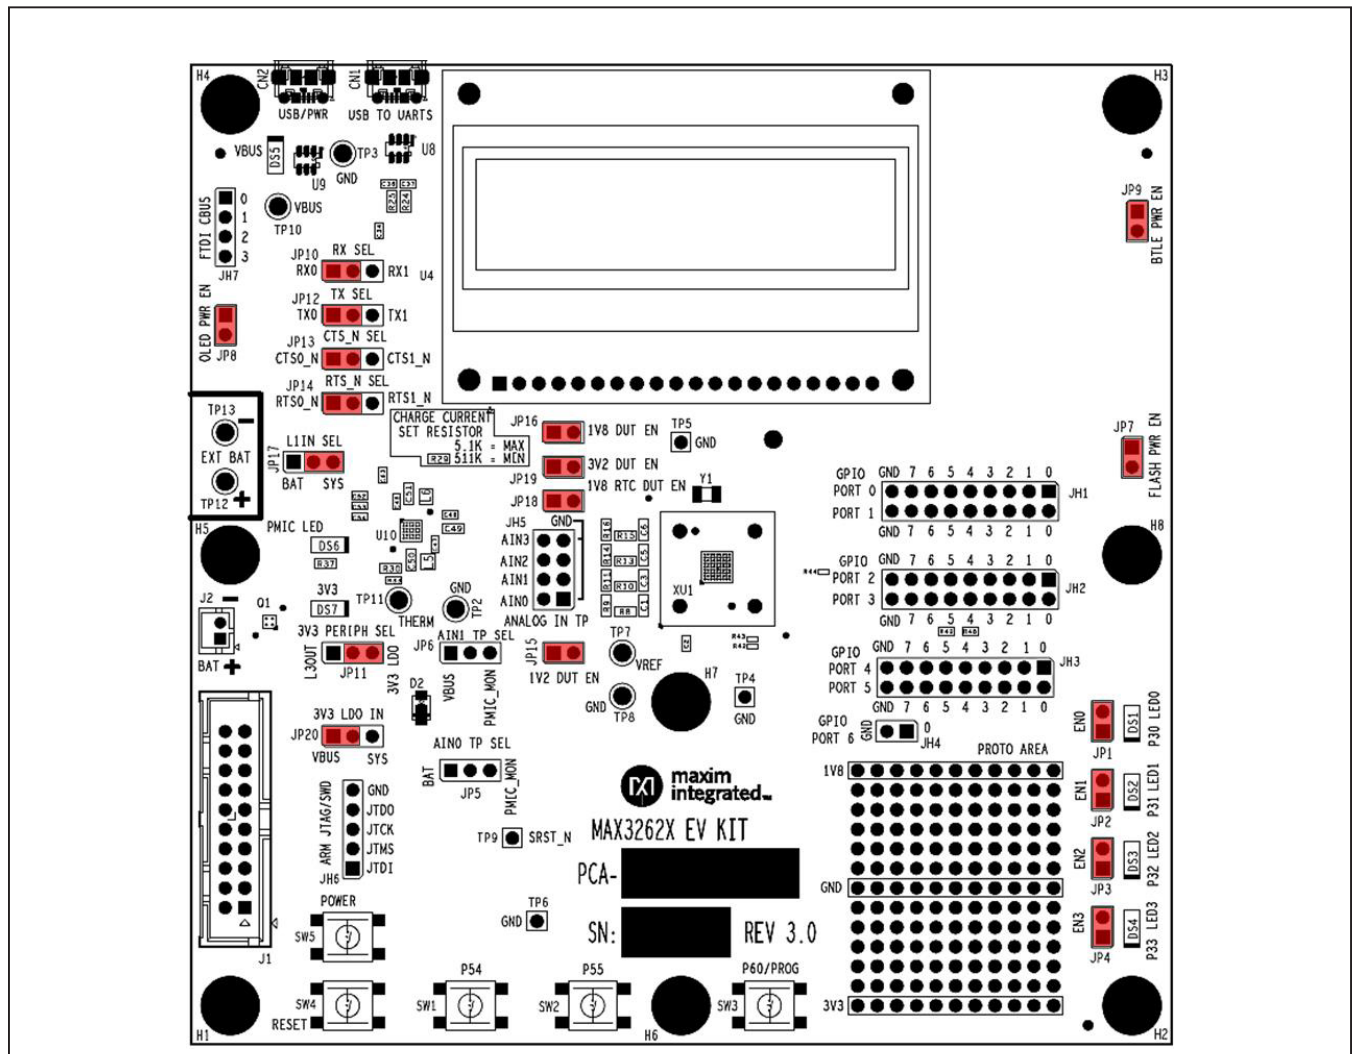

Figure 4. Default Jumper Placement
- 1) While observing safe ESD practices, carefully remove the EV kit board out of its packaging. Quickly inspect the board to make sure that no damage occurred during shipment. Jumpers/shunts were pre-installed prior to testing and packaging. By default, they select the USB interface as the source of power for the EV kit board. See Table 1 and Figure 4 for the default jumper settings and descriptions.
Table 1 details the functions of the configurable jumper headers on the EV kit board. The headers are standard 0.1in spacing, 0.025in posts. Settings in Table 1 marked with an asterisk (“\*”) indicate default placements. Figure 4 also shows the default placements highlighted in red.